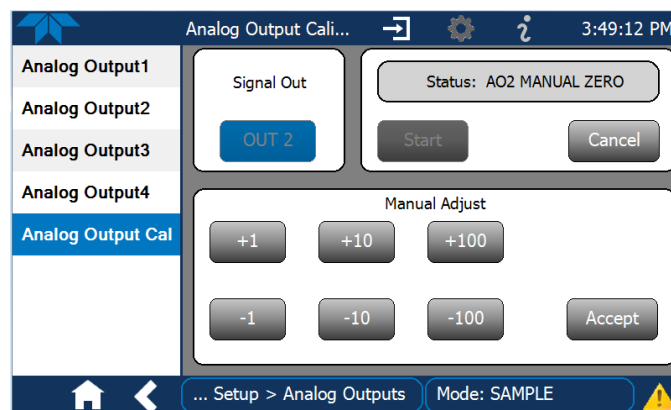
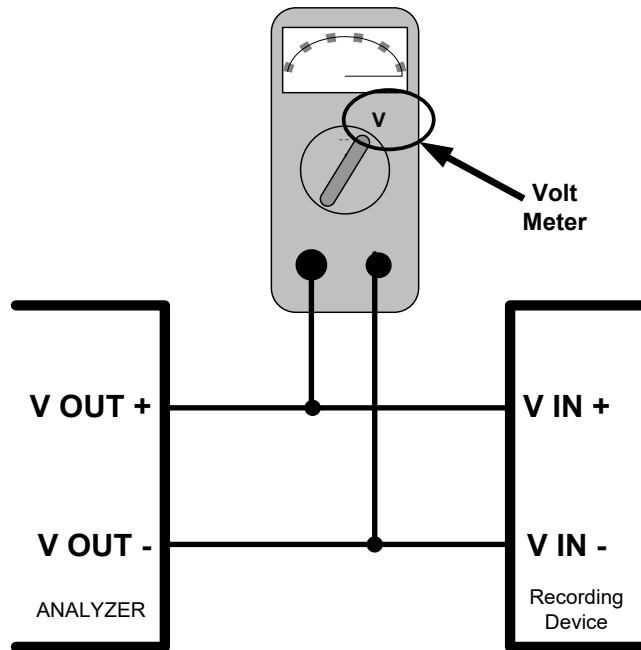

Figure 2-50. Analog Outputs Manual Calibration Screen (AOUT2 Example)
Figure 2-51. Setup for Checking / Calibrating DCV Analog Output Signal Levels
- MANUAL for individual calibration (Figure 2-50) of analog outputs where manual adjustments can be made (the only calibration type allowed when Current is selected for the Range). See Sections 2.5.8.1 and 2.5.8.2 .
It is possible to manually calibrate the voltages by using a voltmeter connected across the output terminals (Figure 2-51) and changing the output signal level in the Manual Adjust field of the Analog Outputs Calibration screen (Figure 2-50). Refer to Table 2-12 for voltage tolerances.